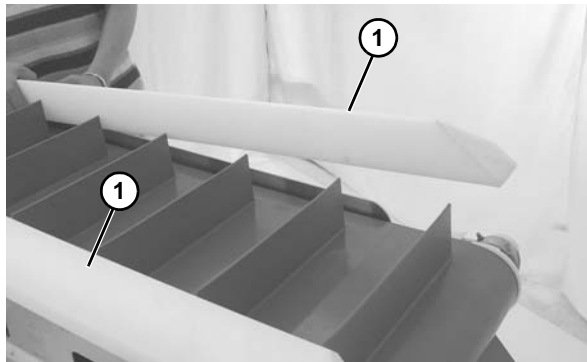

Figure 44
2. Remove the guides (Figure 44, item 1).